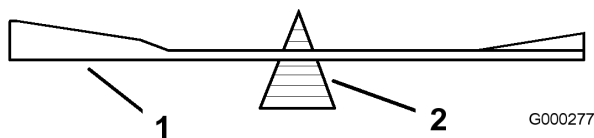
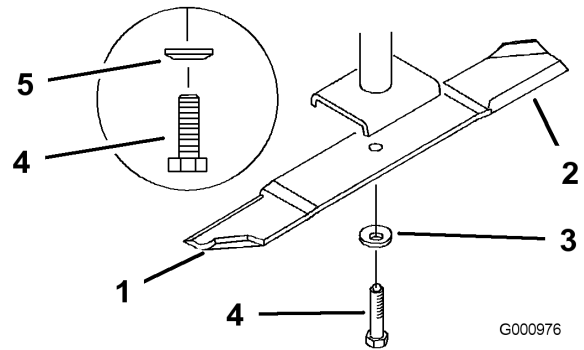

Figure 77
Figure 78
2. Remove the blade bolt, spring disk and blade from the spindle shaft (Figure 78).
2. Check the balance of the blade by putting it on a blade balancer (Figure 77). If the blade stays in a horizontal position, the blade is balanced and can be used. If the blade is not balanced, file some metal off the end of the sail area only (Figure 78). Repeat this procedure until the blade is balanced.
1. Install the blade onto the spindle shaft (Figure 78).
2. Install the spring disk and blade bolt. The spring disk cone must be installed toward the bolt head (Figure 78). Torque the blade bolt to 85-110 ft-lb (115-150 N•m).